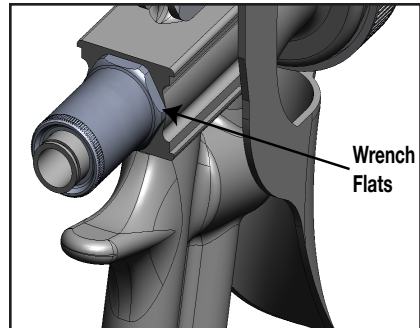

Figure 12: Packing Cartridge Removal
- Remove the air valve piston assembly shown in Figure 12 from the gun body.